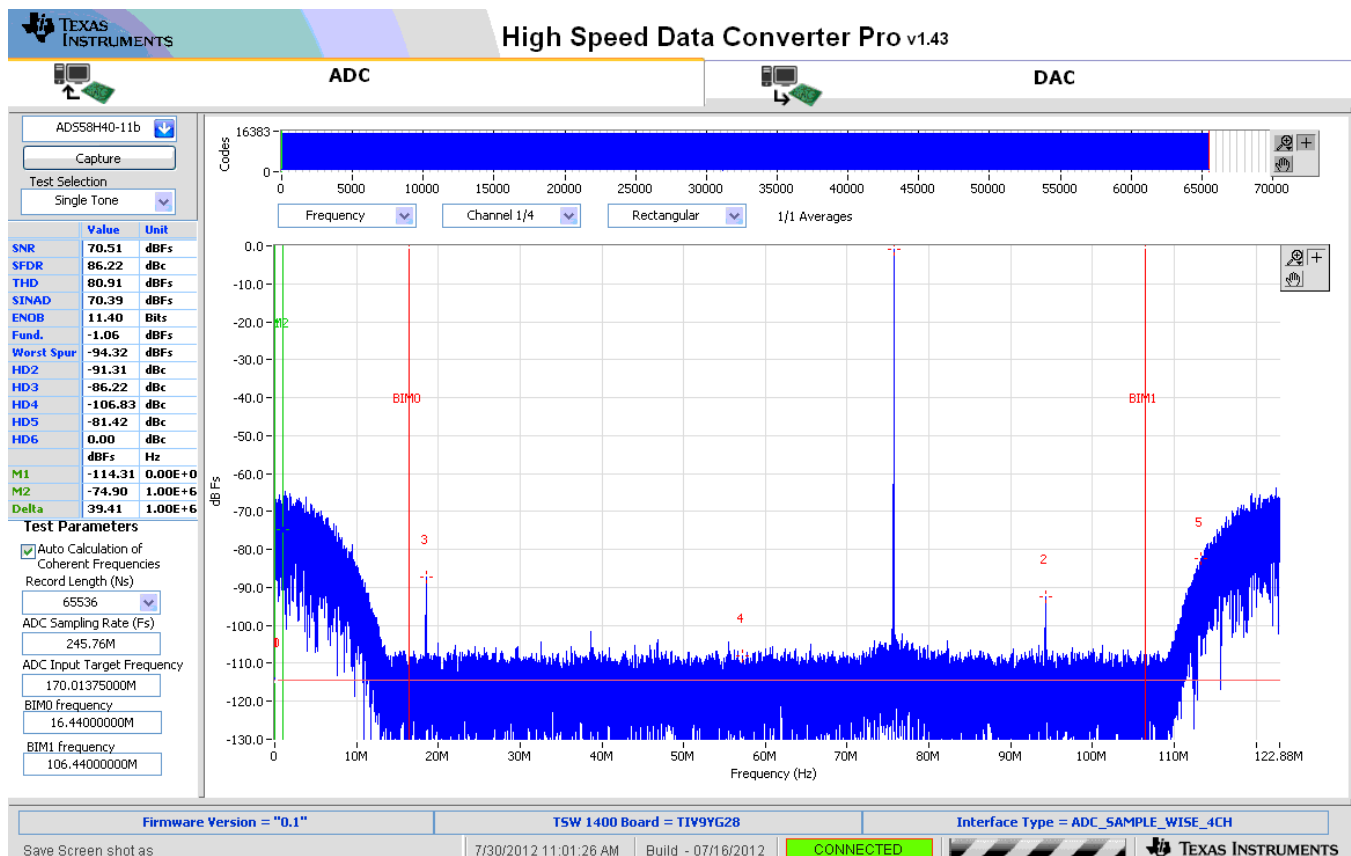

Figure 12. ADS58H4x 11-bit SNRBoost Mode, Single Tone Test Result: $F_s = 245.76$ MSPS, $F_{in} = 170$ MHz
6. Observe an FFT result similar to that of Figure 12.